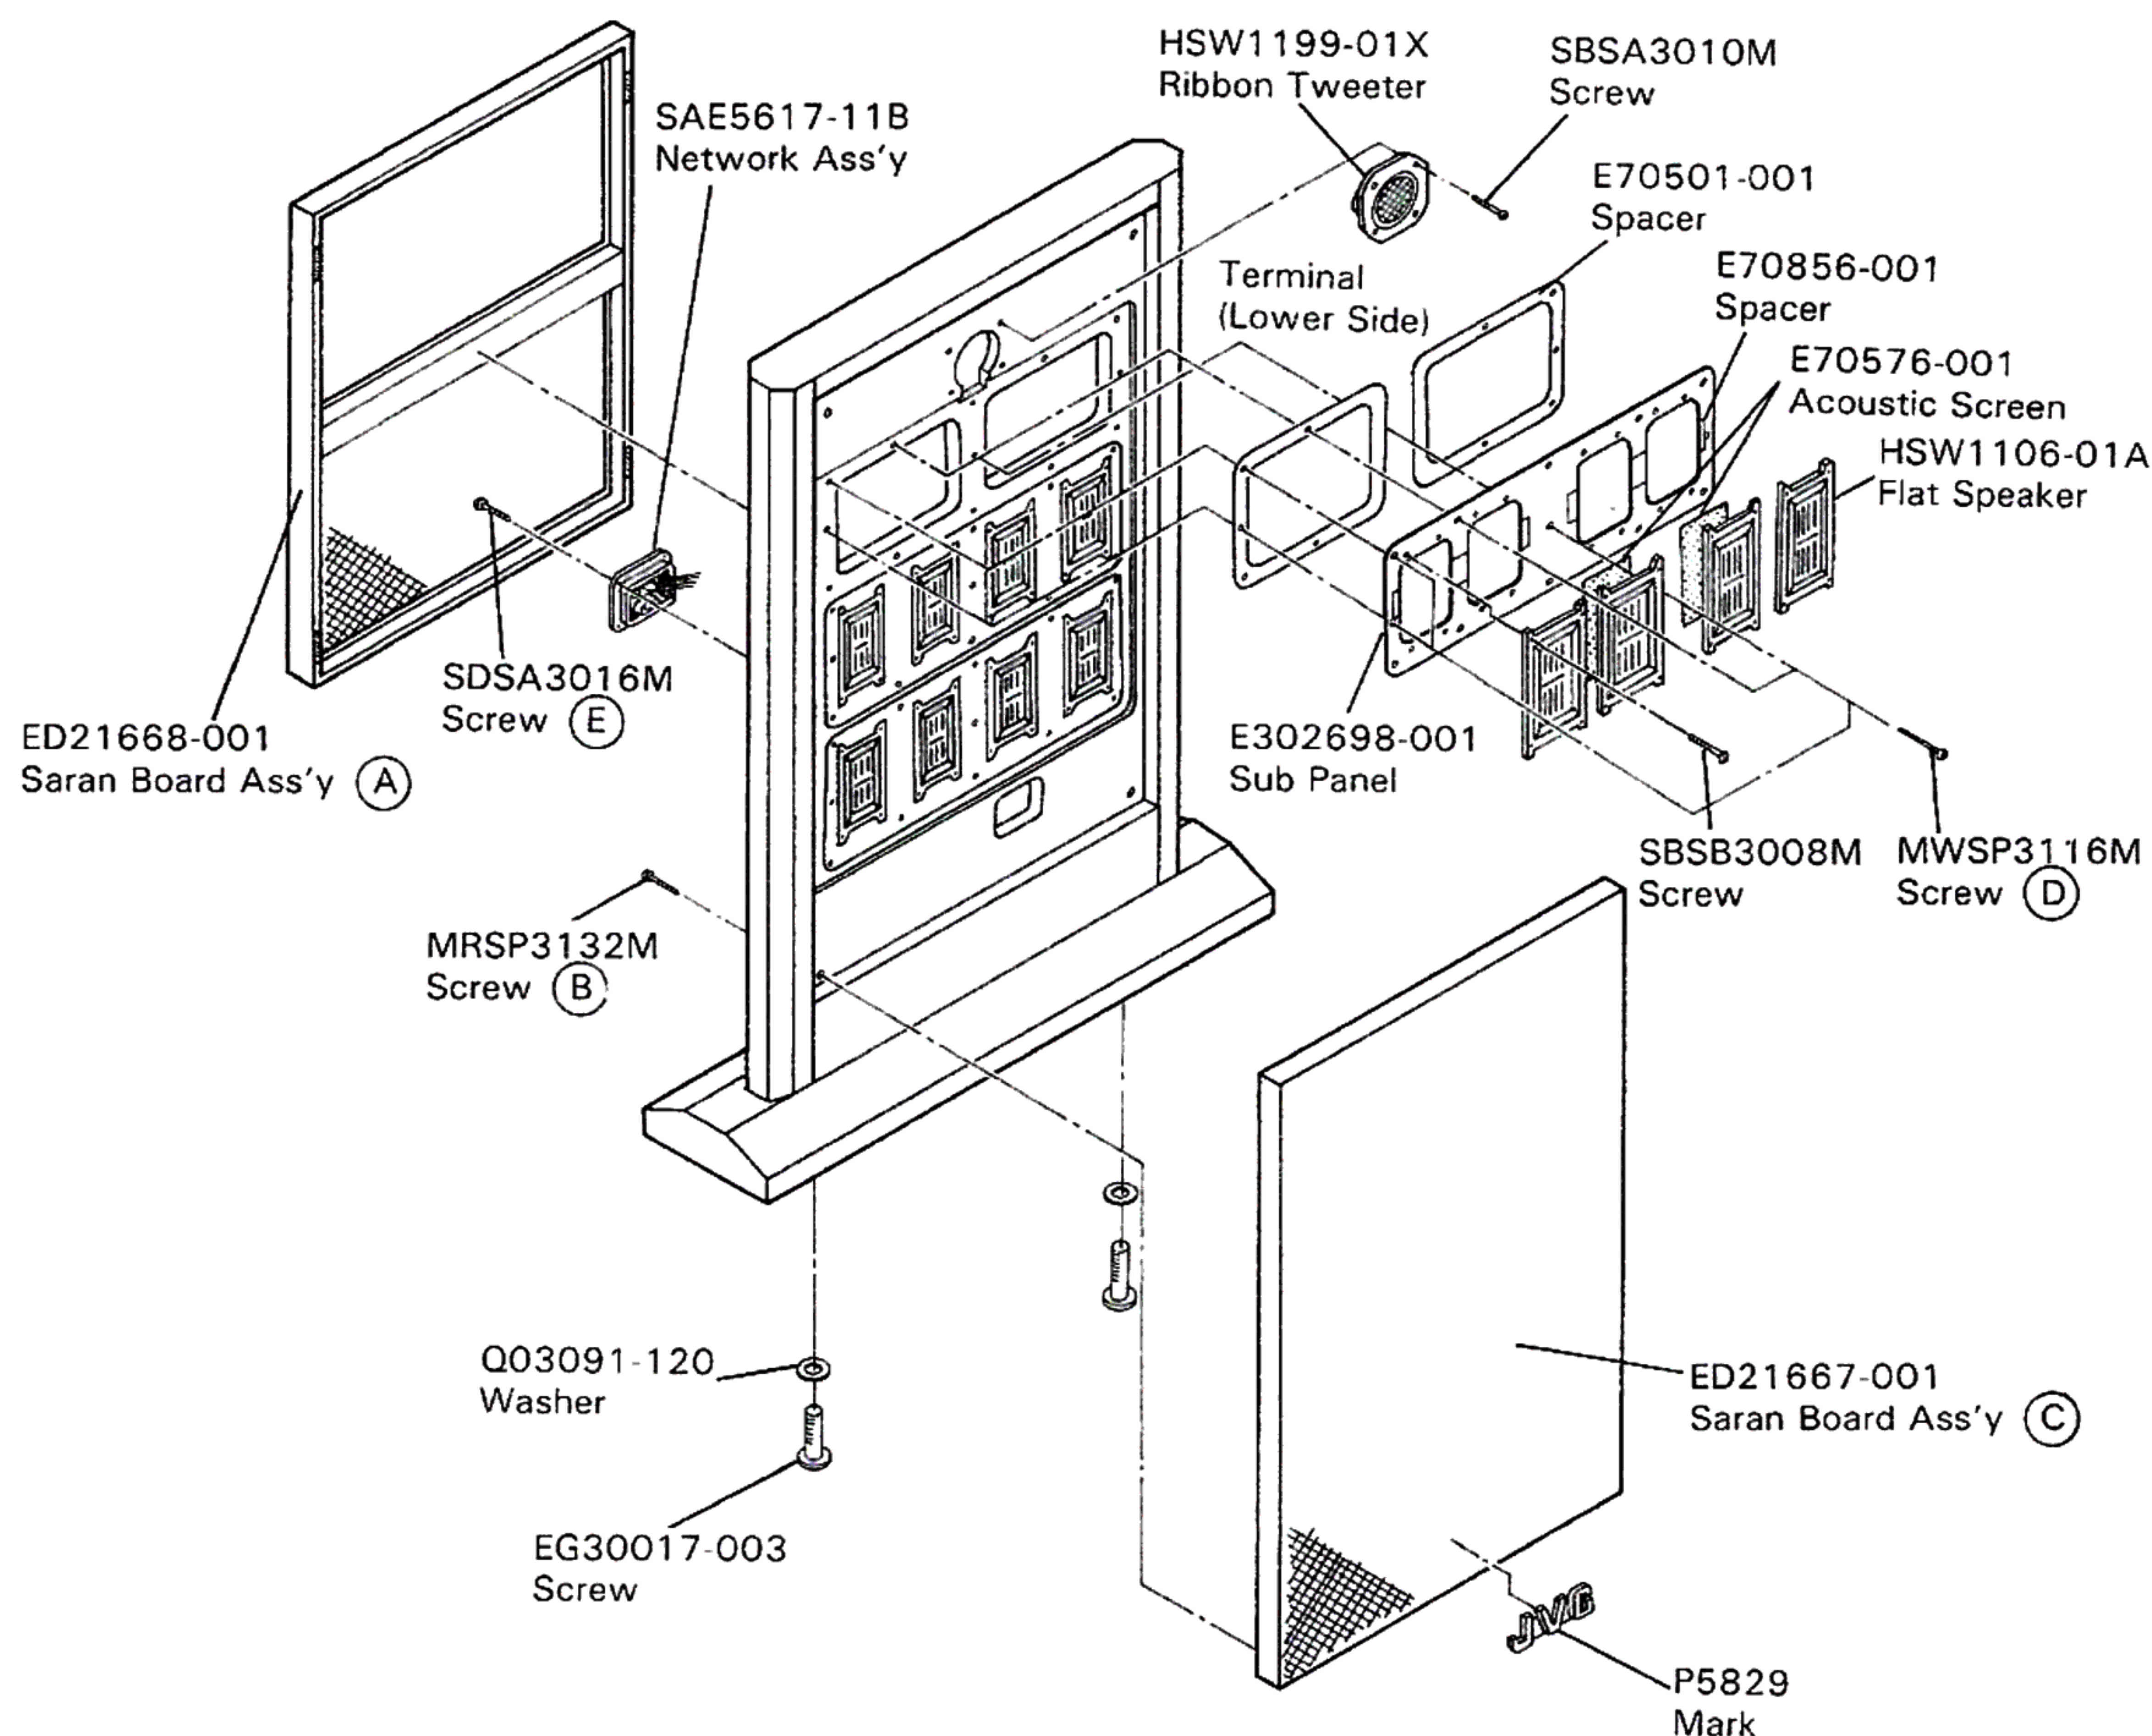

Fig. 1
• Flat speaker (refer to Fig. 1)
1. Remove the rear saran board assembly (A).
2. Unscrew 4 screws (B) and remove the saran board assembly (C) in the front.
• Network Ass'y (refer to Fig. 1 and Fig. 3)
1. Unscrew the fixing screws (E) of the network assembly.